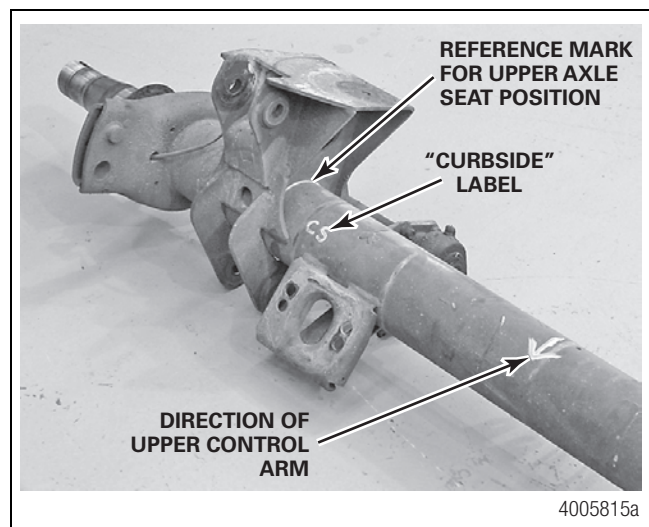

Figure 2
14. Use a marking device such as chalk to apply reference marks on the axle. It is important to add these marks before turning the axle over to eliminate any confusion and possibility for error. If possible, place the marks toward the center, inboard side, of the axle, and up and over the top, to ensure that the marks remain during the axle seat replacement procedure. Figure 2.